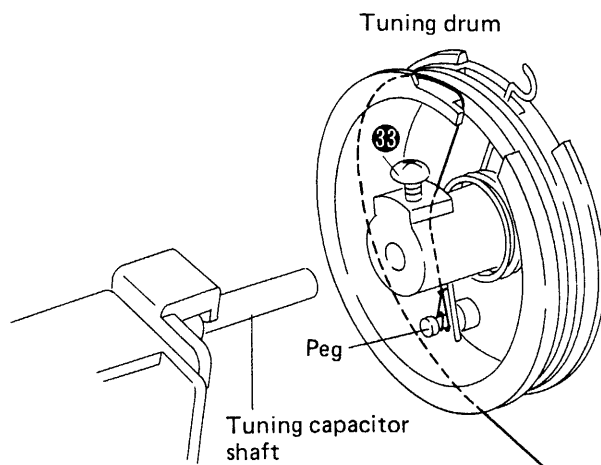
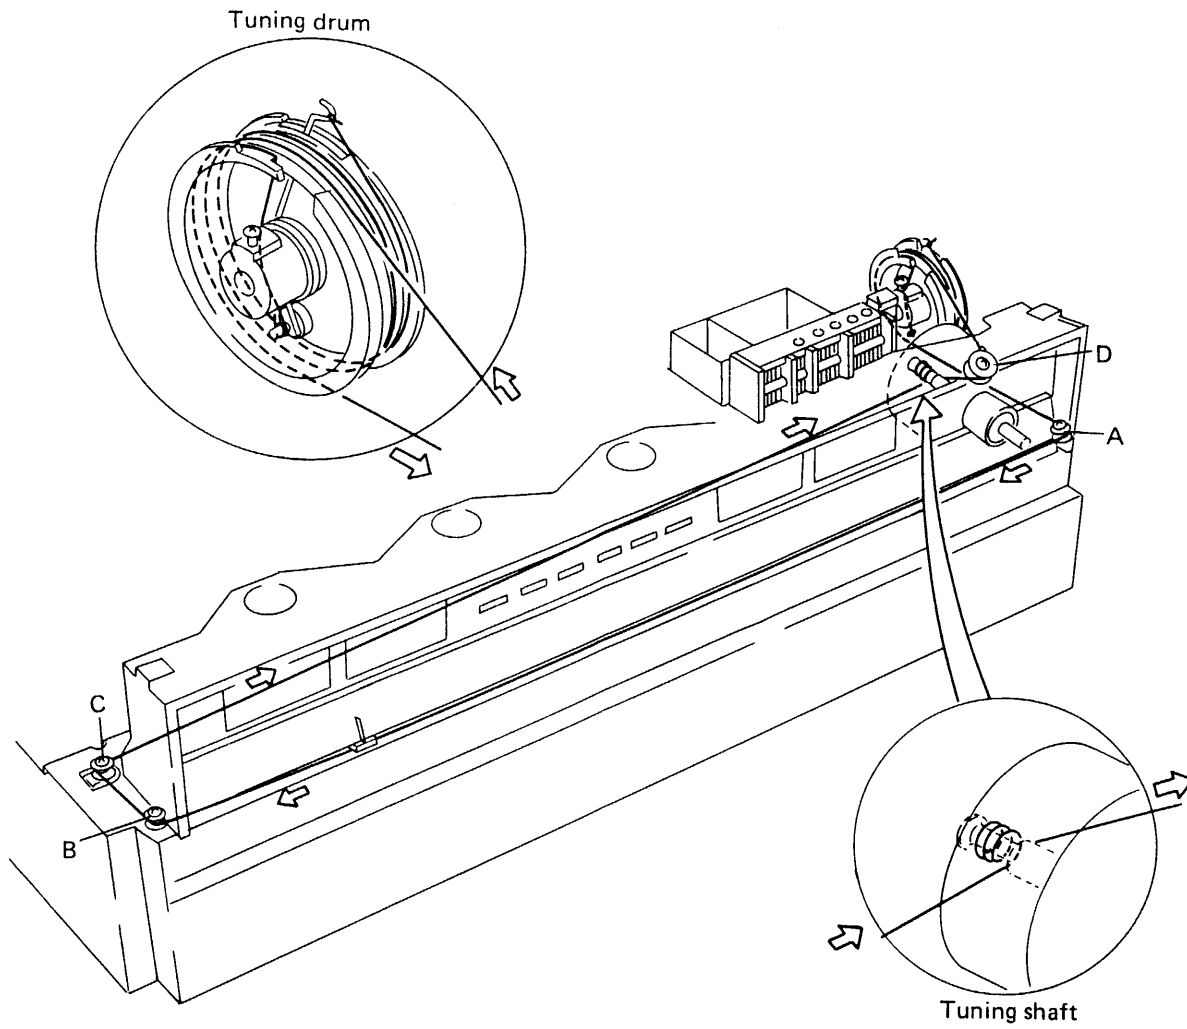

Fig. 14
Fig. 15
3. Loosen screw ③③, and then remove the tuning drum from the tuning capacitor shaft (Fig. 14).
4. Tie one end of the cord to the peg on the inside of the tuning drum (Fig. 14).
5. With the tuning capacitor blades turned full in, rotate the tuning drum around the variable capacitor shaft so that screw ③③ is positioned at the apex (i.e. facing straight up).
6. Lead the cord out through the gap in the tuning drum, make half a turn, and then pass the cord over the pulleys A, B, and C in that order. Wind the cord 3 times around the tuning shaft and pass it over pulley D; then make 2 windings around the tuning drum, and finally tie it to the spring, making sure there is sufficient tension in the cord (Figs. 15, 16).